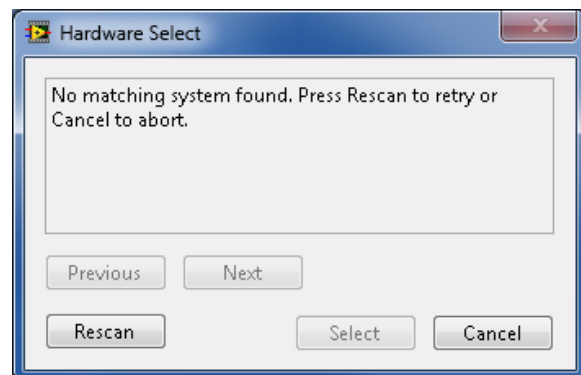

Figure 4. Connectivity Error
2. If the SDP board is not connected to the USB port when the software is launched, a connectivity error displays (see Figure 4.). Simply connect the evaluation board to the USB port of the PC, wait a few seconds, click **Rescan**, and follow the instructions.